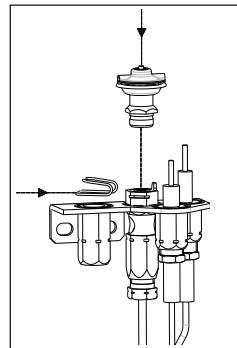

fig. 2
- 4** Insert a 5/32" or 4 mm Allen wrench into the hexagonal key-way of the injector (fig. 2), and rotate it counter-clockwise until it is free of the injector journal.